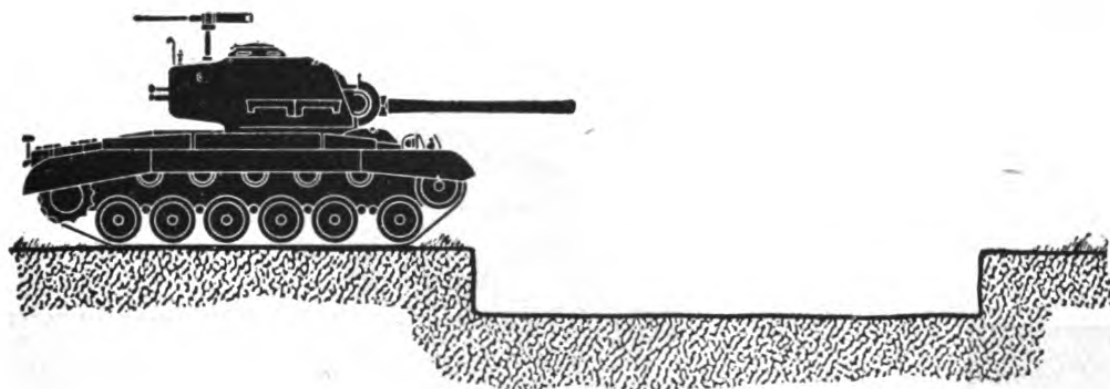

Figure 26. As you approach a ditch, slow down and shift into a lower gear.
b. The right way of crossing different kinds of terrain and obstacles are illustrated in figures 26 to 35 inclusive.